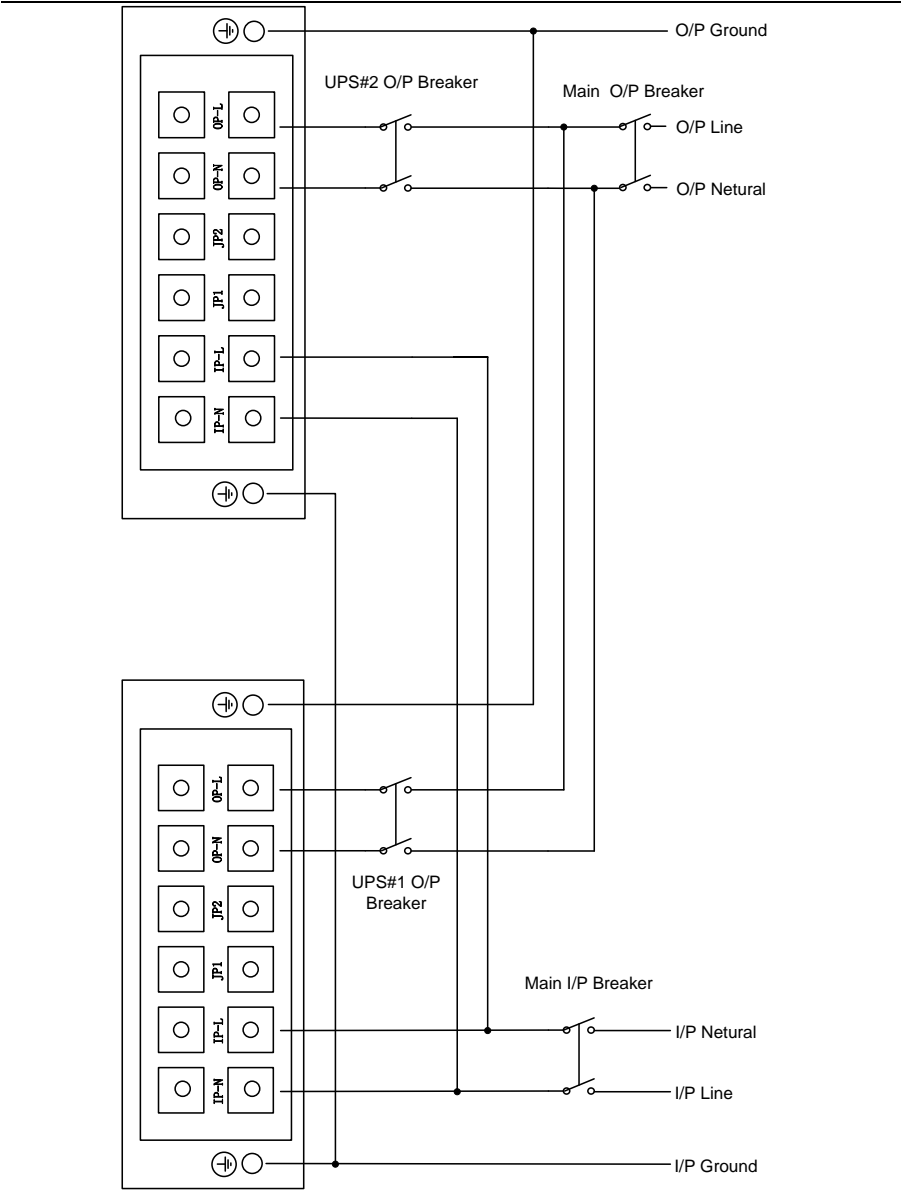

Fig. 6-1 Input and output Terminal Block wiring diagram
- 8) Please refer to the wiring diagram (Fig 6-1).